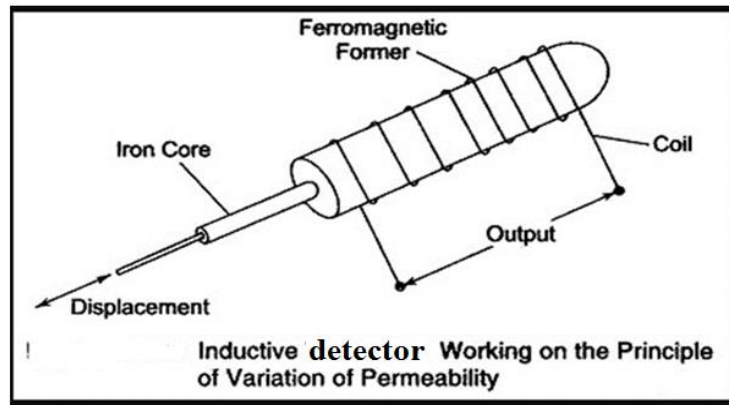

Fig: 2. Inductive displacement detector which works on the principle of the variation of permeability
- Figure 2: shows an Inductive sensor which works on the principle of the variation of permeability causing a change in self-inductance.